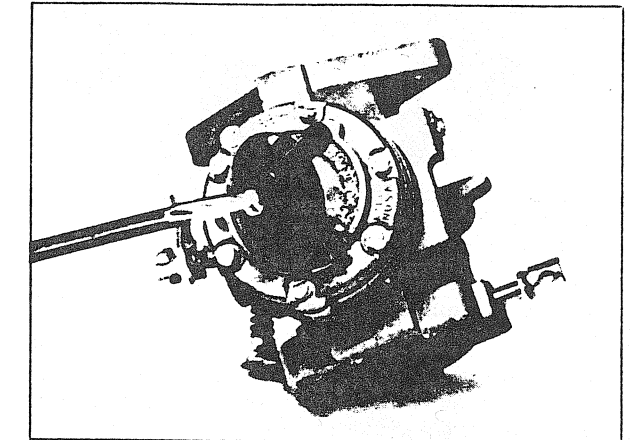

FIGURE 2
- Remove the screw affixing the filter cover to the carburetor bottom, clean the cover and filter screen with gasoline. (Fig. 2).